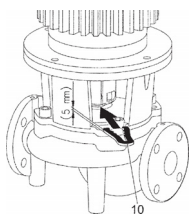

Fig. 13: Positioning the forked spacer
10. Slide the forked spacer (Fig. 13, Item 10) between the lantern and coupling. The forked spacer must sit there without any play.
13. Slide the forked spacer (Fig. 13, Item 10) between the lantern and coupling. The forked spacer must sit there without any play.